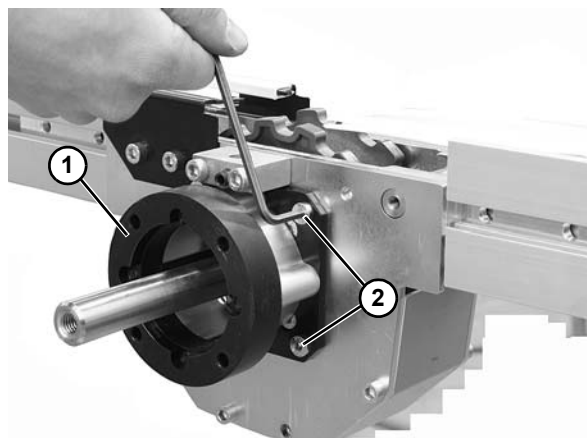

Figure 68
6. Install drive motor mounting plate (**Figure 68, item 1**) using four hex head cap screws (**Figure 68, item 2**).